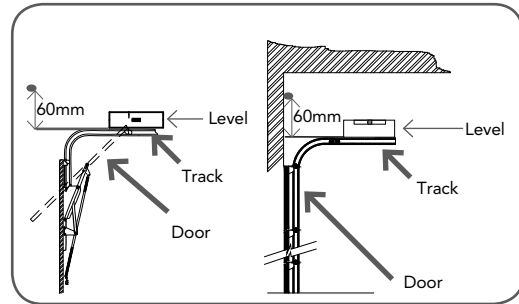

fig 9
- Using a level, transfer this height to the wall above the door (**Fig. 9**) and mark a line 60mm above it.